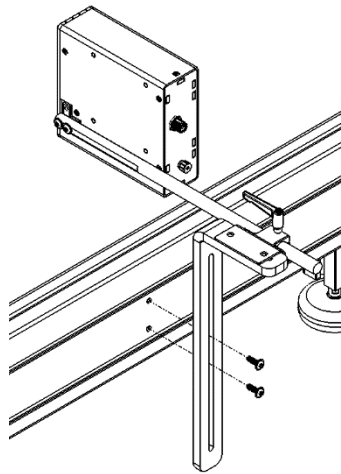

Figure 12
- Drill two holes in your desired position on the side of the conveyor as shown in Figure 12.
- Assemble the L-shape mount with the print head to the holes you just drilled as shown in Figure 12.